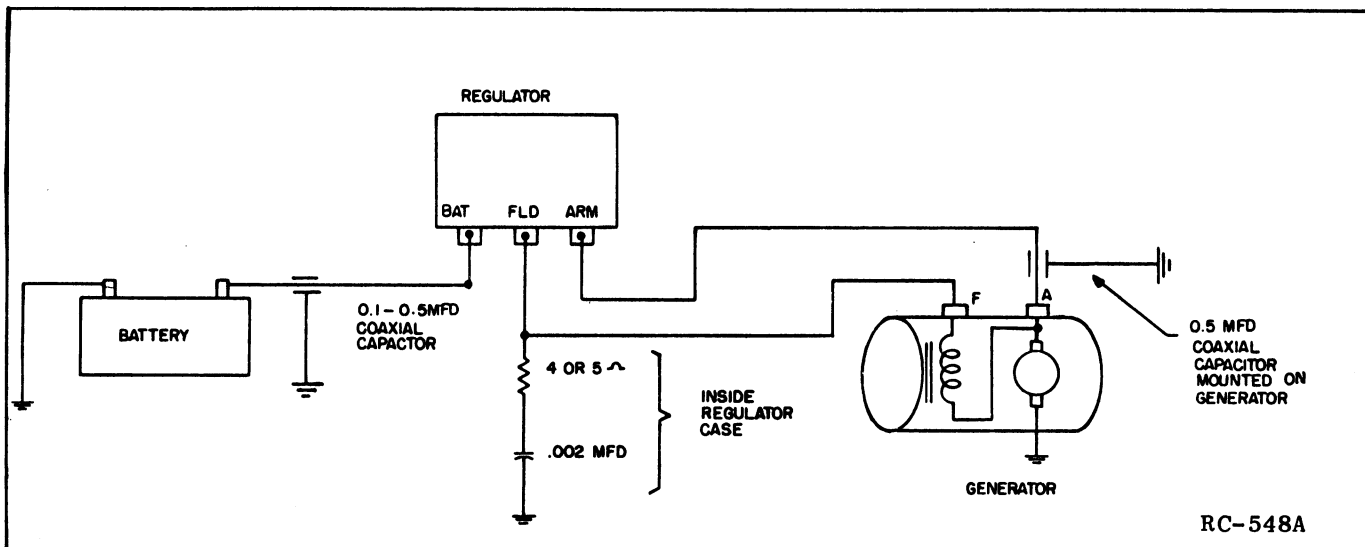

Figure 2 - Generator Circuit with Noise Suppression Components
Generator regulator Noise shows up as a "raspy" sound which is generated by the contacts in the regulator and radiated by the leads coming out to the regulator. If suppression of regulator noise is necessary, connect a 5 ohm resistor in series with a .002 mfd capacitor from the field terminal (F) of the regulator to ground. If possible, these components should be mounted inside regulator case. The battery terminal (BAT) and armature terminal (ARM) can be by-passed to ground with 0.5 mfd capacitors (Refer to Figure 2).